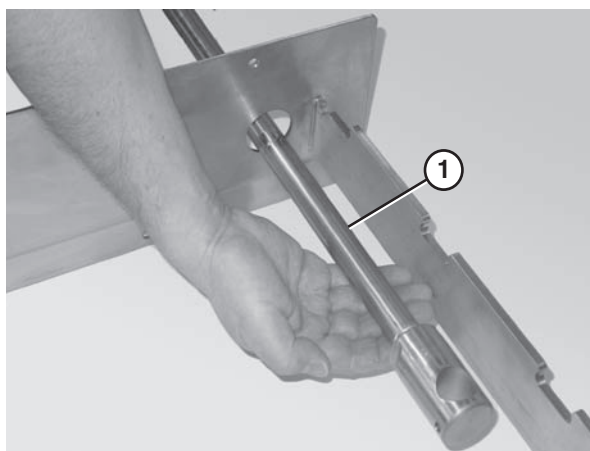

Figure 25
1. Slide the tip up shaft (Figure 25, item 1) through the designated slots in the frame.